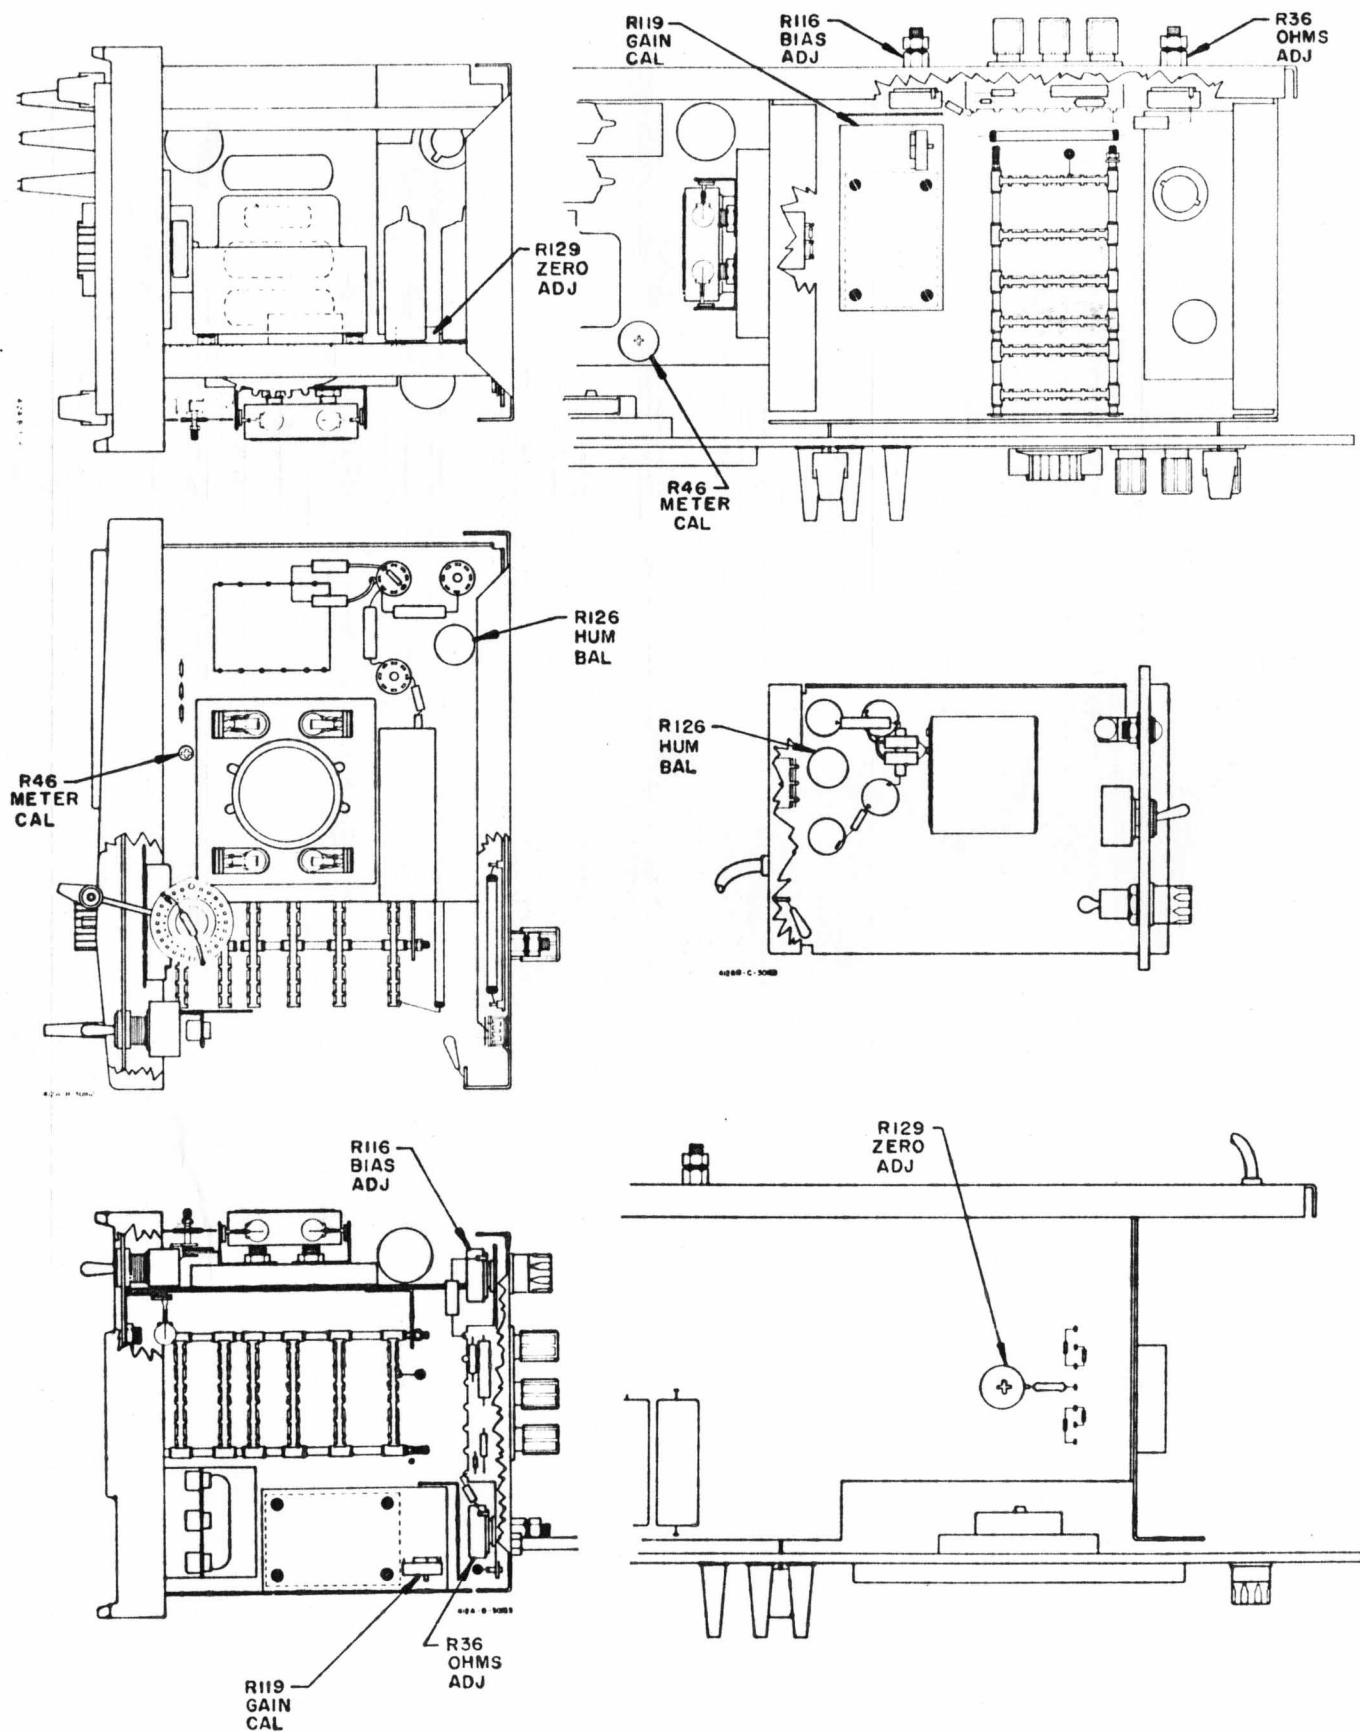

Figure 5-3. Location of Adjustments
- d. Adjust HUM BAL (R126, Figure 5-3) for minimum 10 Hz signal on oscilloscope. (If power line frequency is 50 Hz, beat frequency will be 8-1/3 Hz instead of 10 Hz.)